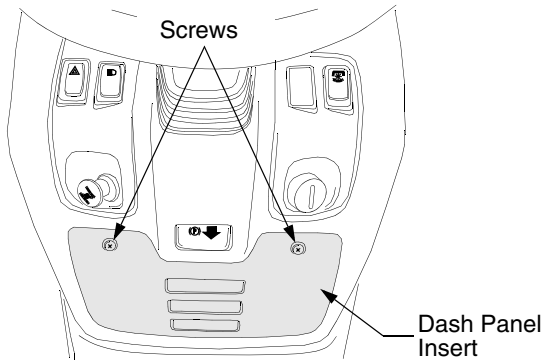

Figure 2
- Remove the dash panel insert by removing the two screws and lifting the insert out (See Figure 2).